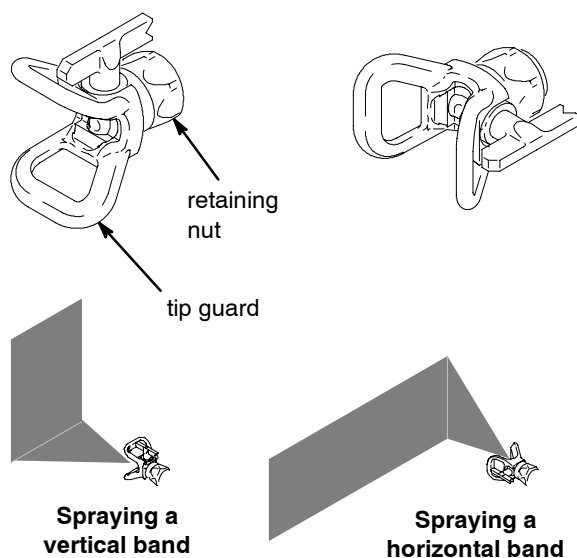

Fig. 2
If you suspect that the spray tip or hose is completely clogged or that pressure has not been fully relieved after following the steps above, VERY SLOWLY loosen the tip guard retaining nut (Fig. 2) or hose end coupling and relieve pressure gradually, then loosen completely. Then clear tip or hose obstruction.
2. Fig. 2. Turn the tip guard by hand to change the orientation.